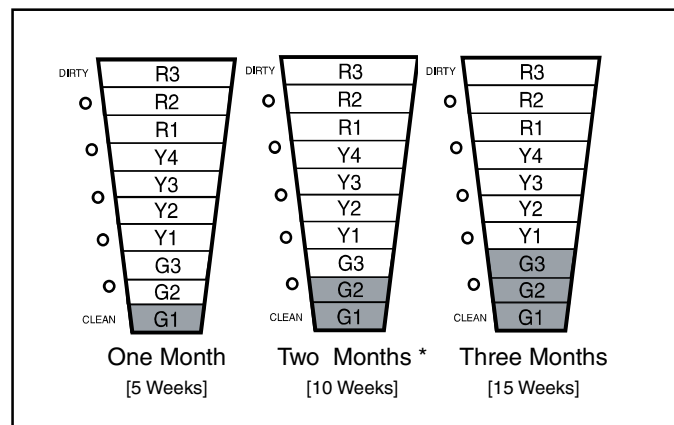

Figure 26 Green LED Pre-Filter Settings
- The three GREEN LED's are used to indicate PRE-FILTER cleaning interval. This is measured in actual run time of the indoor fan. The default setting is 2 months [10 weeks]. See Figure 26.
PRE-FILTER SETTING (Figure 26) 24V Mode Only.